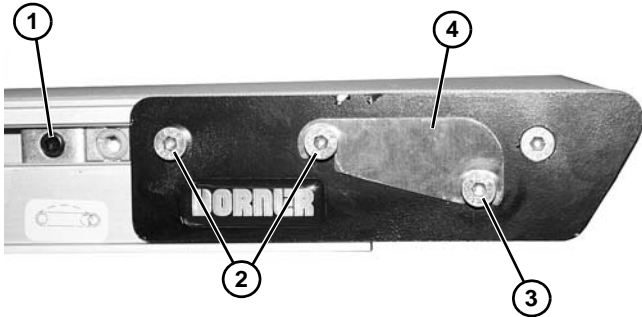
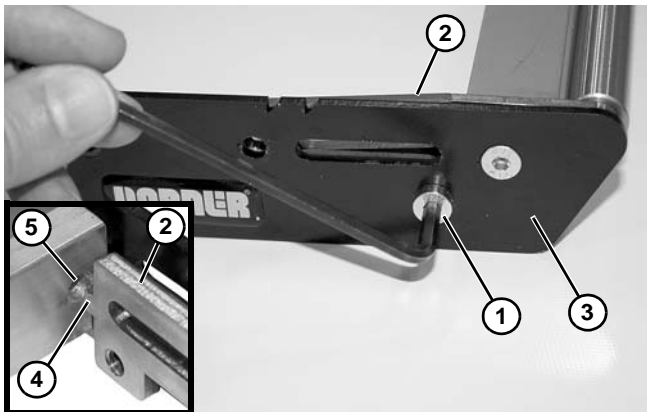

Figure 106
Figure 107
1. On both sides of conveyor, loosen cam fastening screw (Figure 106, item 1) (if equipped) and slide cam assemblies toward the center of the conveyor.
2. On both sides of conveyor, loosen fastening screws (Figure 106, item 2) to remove belt tension. Remove belt from end of conveyor.
3. On both sides of conveyor, loosen fastening screw (Figure 106, item 3) and remove dust cover (Figure 106, item 4) (if equipped).
4. Remove nosebar tail from the conveyor and place on an open work surface. On one side of nosebar tail, remove two fastening screws (Figure 106, item 2).
5. Remove lower screw (Figure 107, item 1) and remove tail nut bar (Figure 107, item 2) and side plate (Figure 107, item 3).
During reassembly, make certain that the tail nut bar nipple (Figure 107, item 4) is inserted into the support bar hole (Figure 107, item 5).
10. Assemble and install head in reverse order of removal. Use a 4 mm hex-key wrench to tighten lower screw (Figure 107, item 1) to 30 in-lb (3.4 Nm). Leave two fastening screws (Figure 106, item 2) loose for belt tensioning.